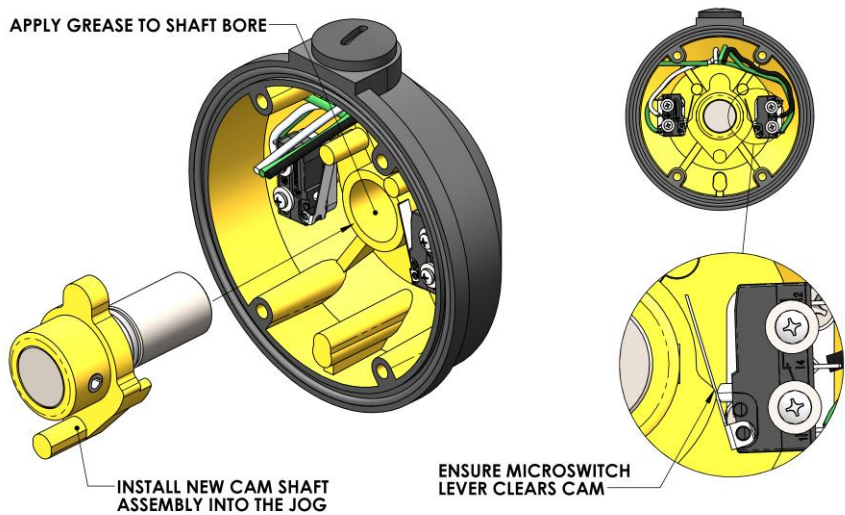

Figure 26: Installing new cam assembly back into jog housing.
16. Slide the new cam shaft assembly into the jog housing. Ensure the microswitch levers are pushed back and clear the cam when installing as shown in Figure 26.